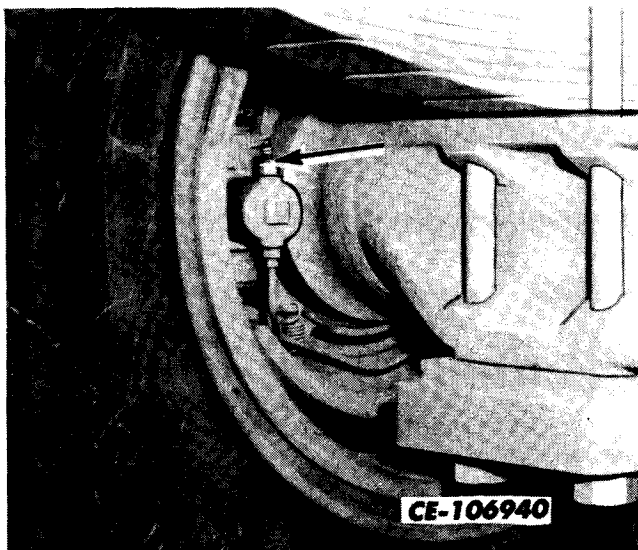

Fig. 19. Wheel Cylinder Bleeder Screw (Rear)
4. Open the bleeder screw (Fig. 19 or 20) on the wheel cylinder. Depress and hold the brake pedal until clean, air free, fluid appears then close the bleeder screw and release the brake pedal.